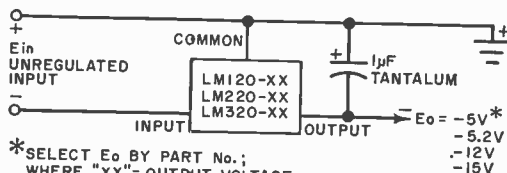

Fig. 2. Basic hookup for a regulator using an LM120 integrated circuit.
age regulators are the news these days, and simplicity is the key. National Semiconductor has recently introduced the LM120 series of 3-terminal negative regulators with preset output voltages of -5, -5.2, -12, and -15 volts, with current capacity of 1.5 A (see Fig. 2). The devices are protected against short circuits and thermal overloads. They have 50-mV load regulation and 0.5-mV/V line regulation and are offered in TO-5(H) and TO-3(K) packages. Prices begin at \$5.50 (1 to 24) for the LM320XXH and \$5.95 for LM320XXX.